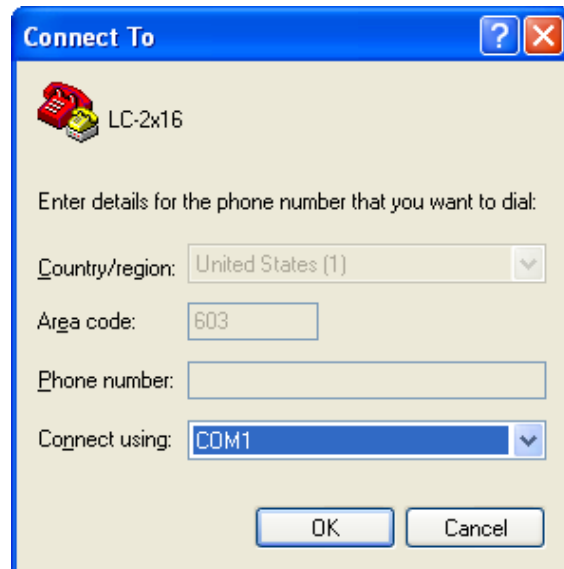

Figure 19 - COM Port Selection
3. In the Connect Using window, select the appropriate COM port (see Figure 19):
2. Change the “Connect using” setting to the appropriate COM port (in this case COM1.) (See Figure 19, HyperTerminal Connection Selection) – Select OK.